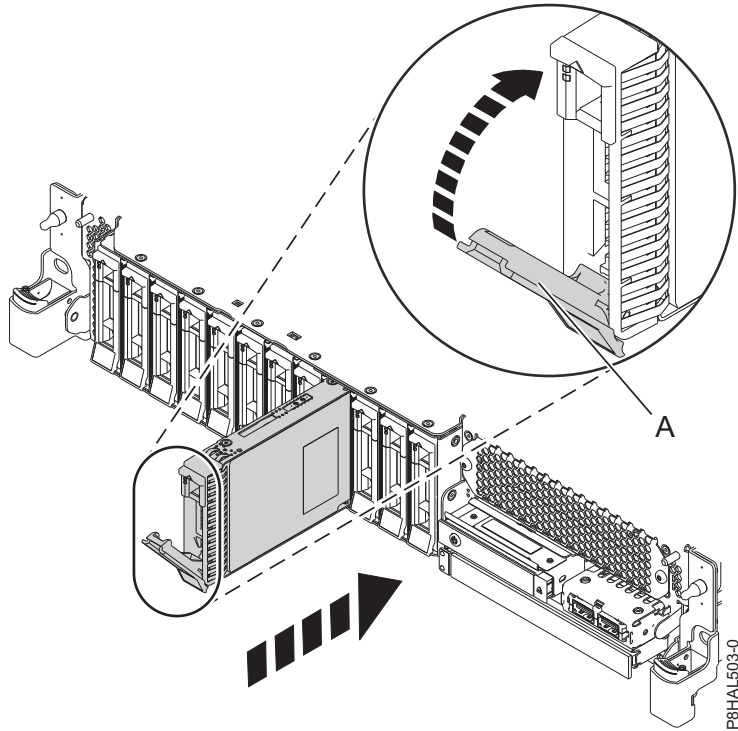
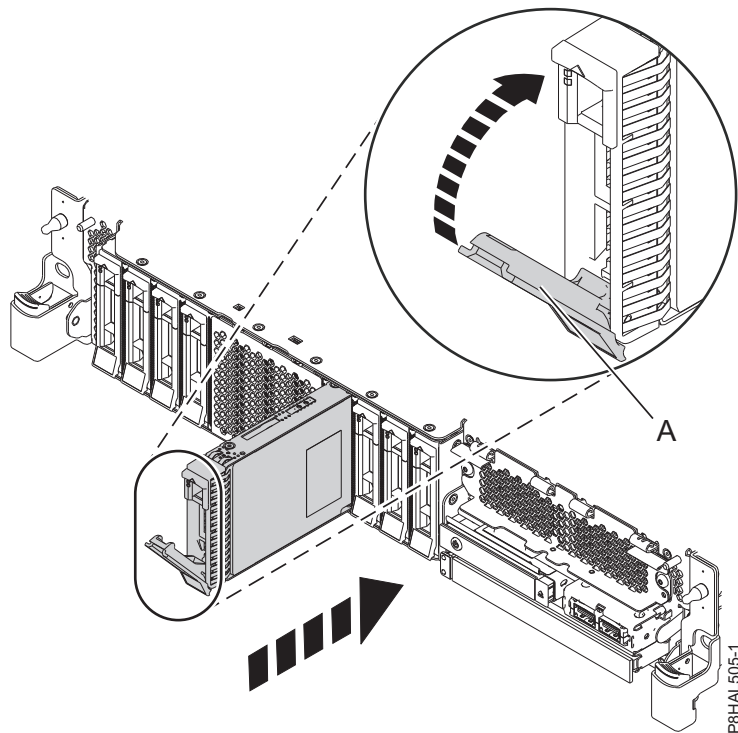

Figure 94. Replacing a disk drive in a base function system
Figure 95. Replacing a disk drive in an expanded function system
4. Unlock the drive bay handle (A) by pressing it and pulling it out toward you. If the handle is not all the way out, the drive does not slide into the system. See Figure 94 on page 93 and Figure 95 on page 93.
8. When the identify LED flashes for the selected slot, slide the drive all the way into the slot, and push the drive bay handle (A) in until it locks, as shown in Figure 94 on page 93 and Figure 95 on page 93.